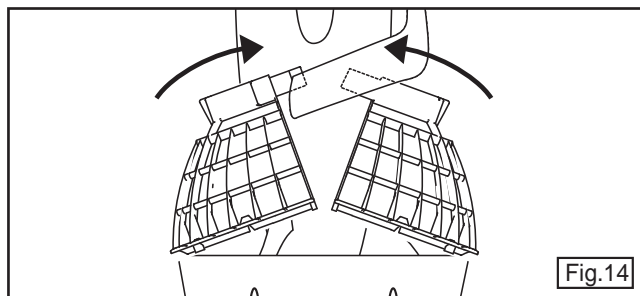

Fig.14
4. Unclip grille as shown in figure 14 (page 21).